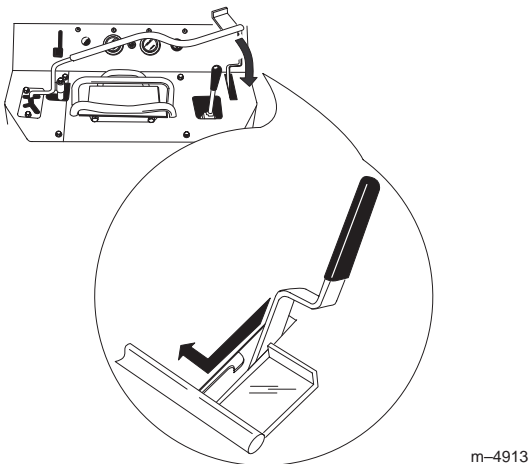

Figure 16
- C. Set the parking brake and release the clamp so that it catches under the brake lever (Fig. 16).